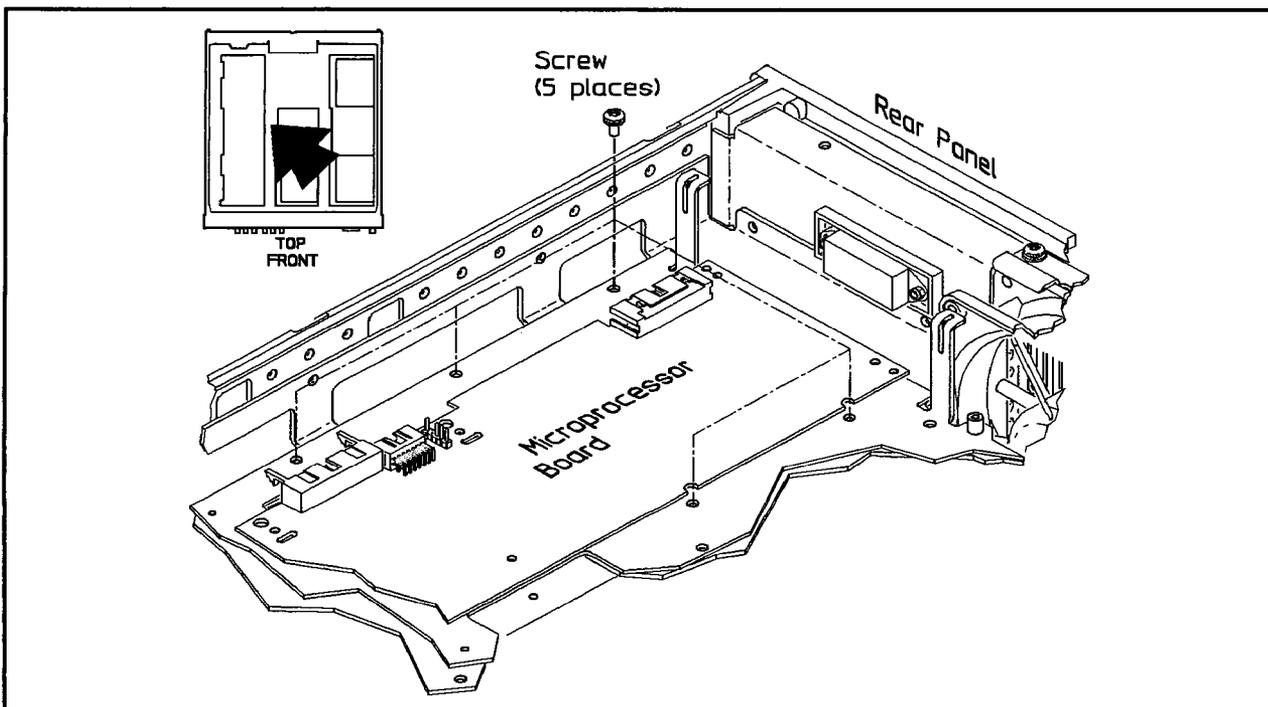

Figure 5-9. Power Supply Screws
1. Using a size 10 TORX® screwdriver, remove the five screws connecting the power supply to the frame (as marked on the frame). See Figure 5-9.
2. Using a size 10 TORX® screwdriver, remove the two screws next to the plug and the voltage selector switch on the rear panel of the frame. See Figure 5-9.